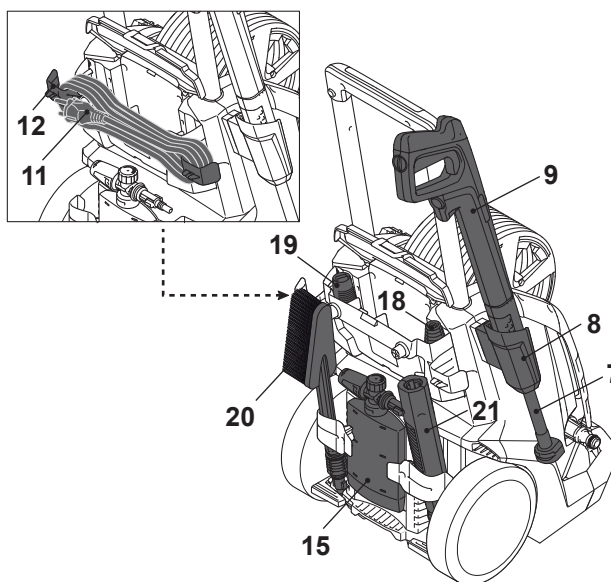

Fig. 16
Utilice el soporte del cable de alimentación (12) para guardarlo (11) (Fig. 16).
Use the upper spray gun holder (8) to store the spray gun (9) and extension lance (7) (Fig. 16).
Accessories (soap tank (15), nozzles (18,19), short extension lance (21), rims brush (20)) can be stored at the back of the product. (Fig. 16).